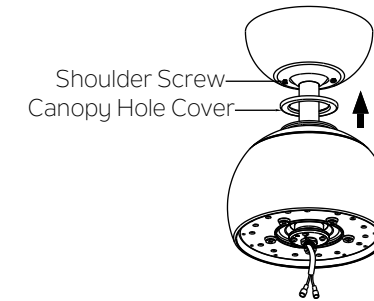

Fig. 14
**Step 3.** Securely attach and tighten the canopy hole cover over the shoulder screws in the mounting bracket utilizing the keyslot twist-lock feature. (Fig. 14)